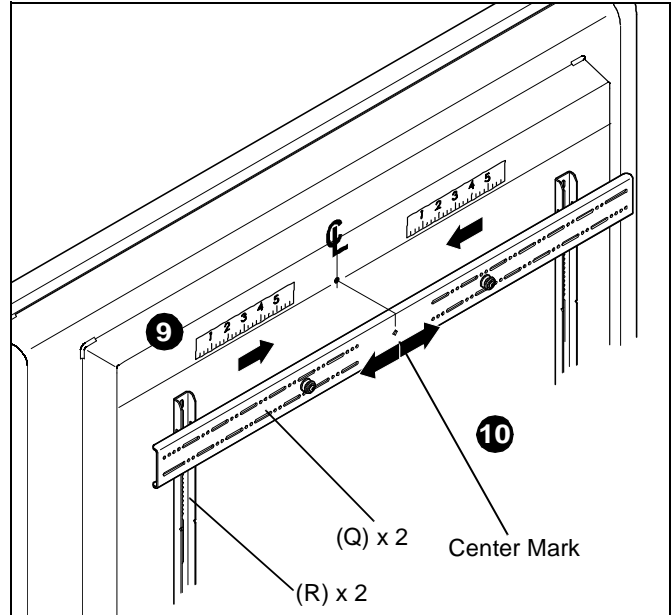
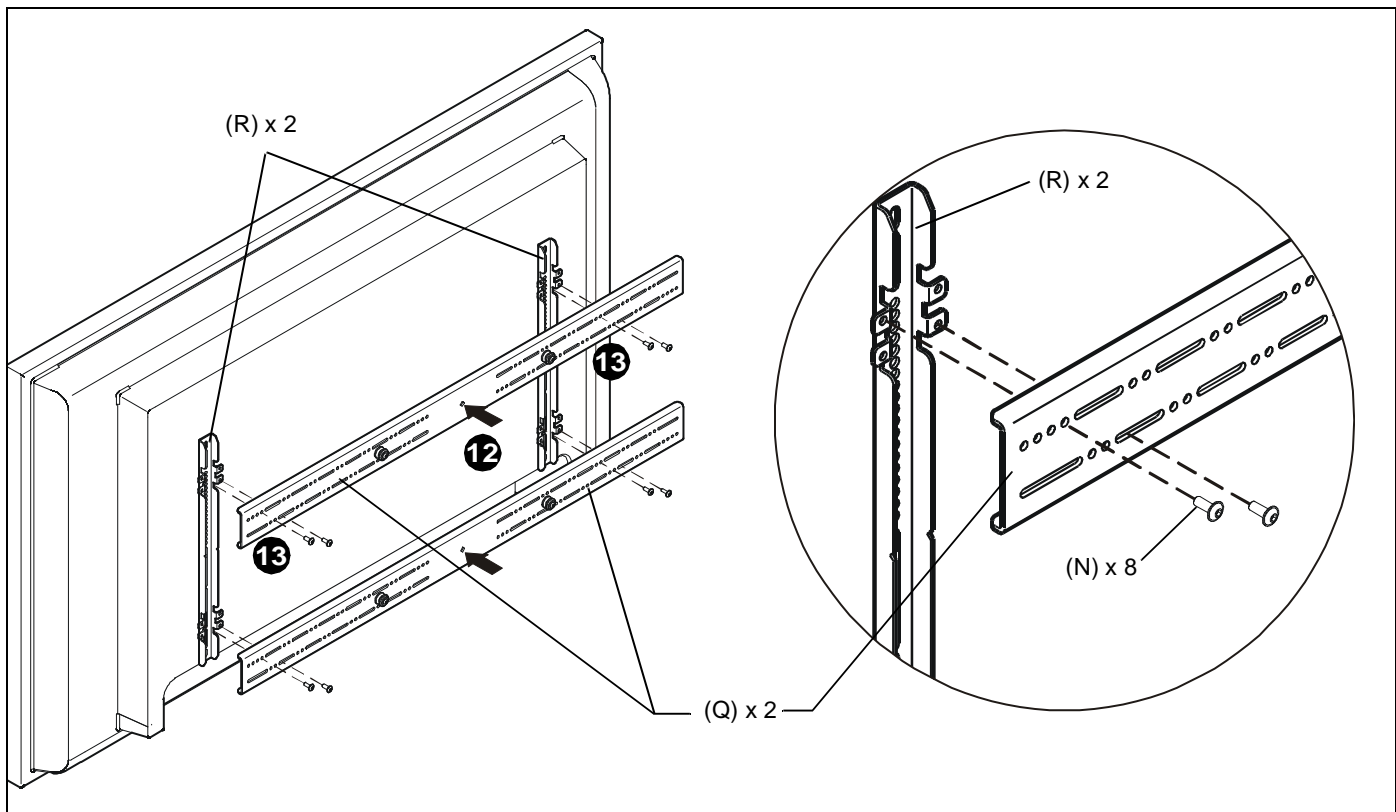

Figure 4
Figure 5
9. Determine and mark the horizontal center position between the Left and Right *TOP* mounting holes in display. (See Figure 4)
10. Determine and mark the horizontal center position between the Left and Right *BOTTOM* mounting holes in display. (See Figure 4)
11. Orient upper horizontal mounting bracket (Q) so that flanges are facing towards display and resting in recessed area of left and right vertical mounting brackets (R). (See Figure 4)
12. Adjust Upper horizontal mounting bracket (Q) position until center diamond in horizontal mounting bracket (R) aligns with mark made in Step 9, and mounting holes and slots in horizontal mounting bracket (Q) are aligned with threaded holes in mounting tabs of left and right vertical mounting brackets (R). (See Figure 4) and (See Figure 5)
13. Use 1/8" hex key (P) to secure upper horizontal mounting bracket (Q) to left and right vertical mounting brackets (R) using four button head flanged screws (N). (See Figure 5)
14. Repeat Steps 10 through 13 for lower horizontal mounting bracket (Q).
IMPORTANT ! : The orientation of, and mounting holes used, when installing the lower horizontal mounting bracket must be the same as the upper horizontal mounting bracket. Vertically align upper and lower brackets by aligning holes or end of slots. (See Figure 5)
IMPORTANT ! : Whenever possible install mounting screws diagonally as shown in detail in Figure 4 below.